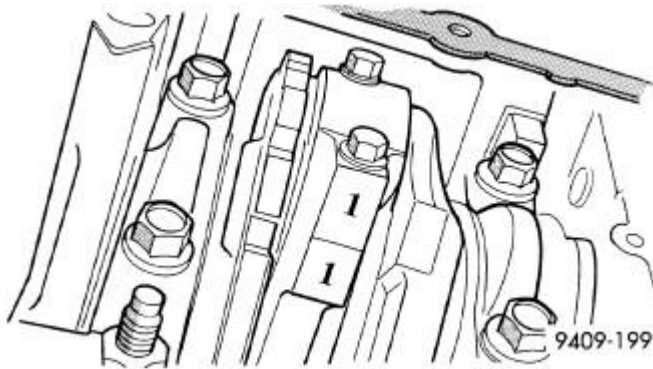

Fig. 138: Mark On Connecting Rod And Bearing Cap
4. Mark connecting rod and bearing cap positions using a permanent ink marker or scribe tool. Refer to **Fig. 138**.